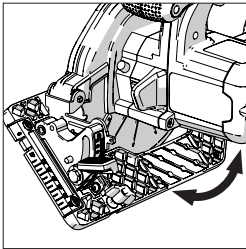

Fig. 14
- Tilt the blade to the required angle as indicated on the quadrant angle scale. (Fig. 14)